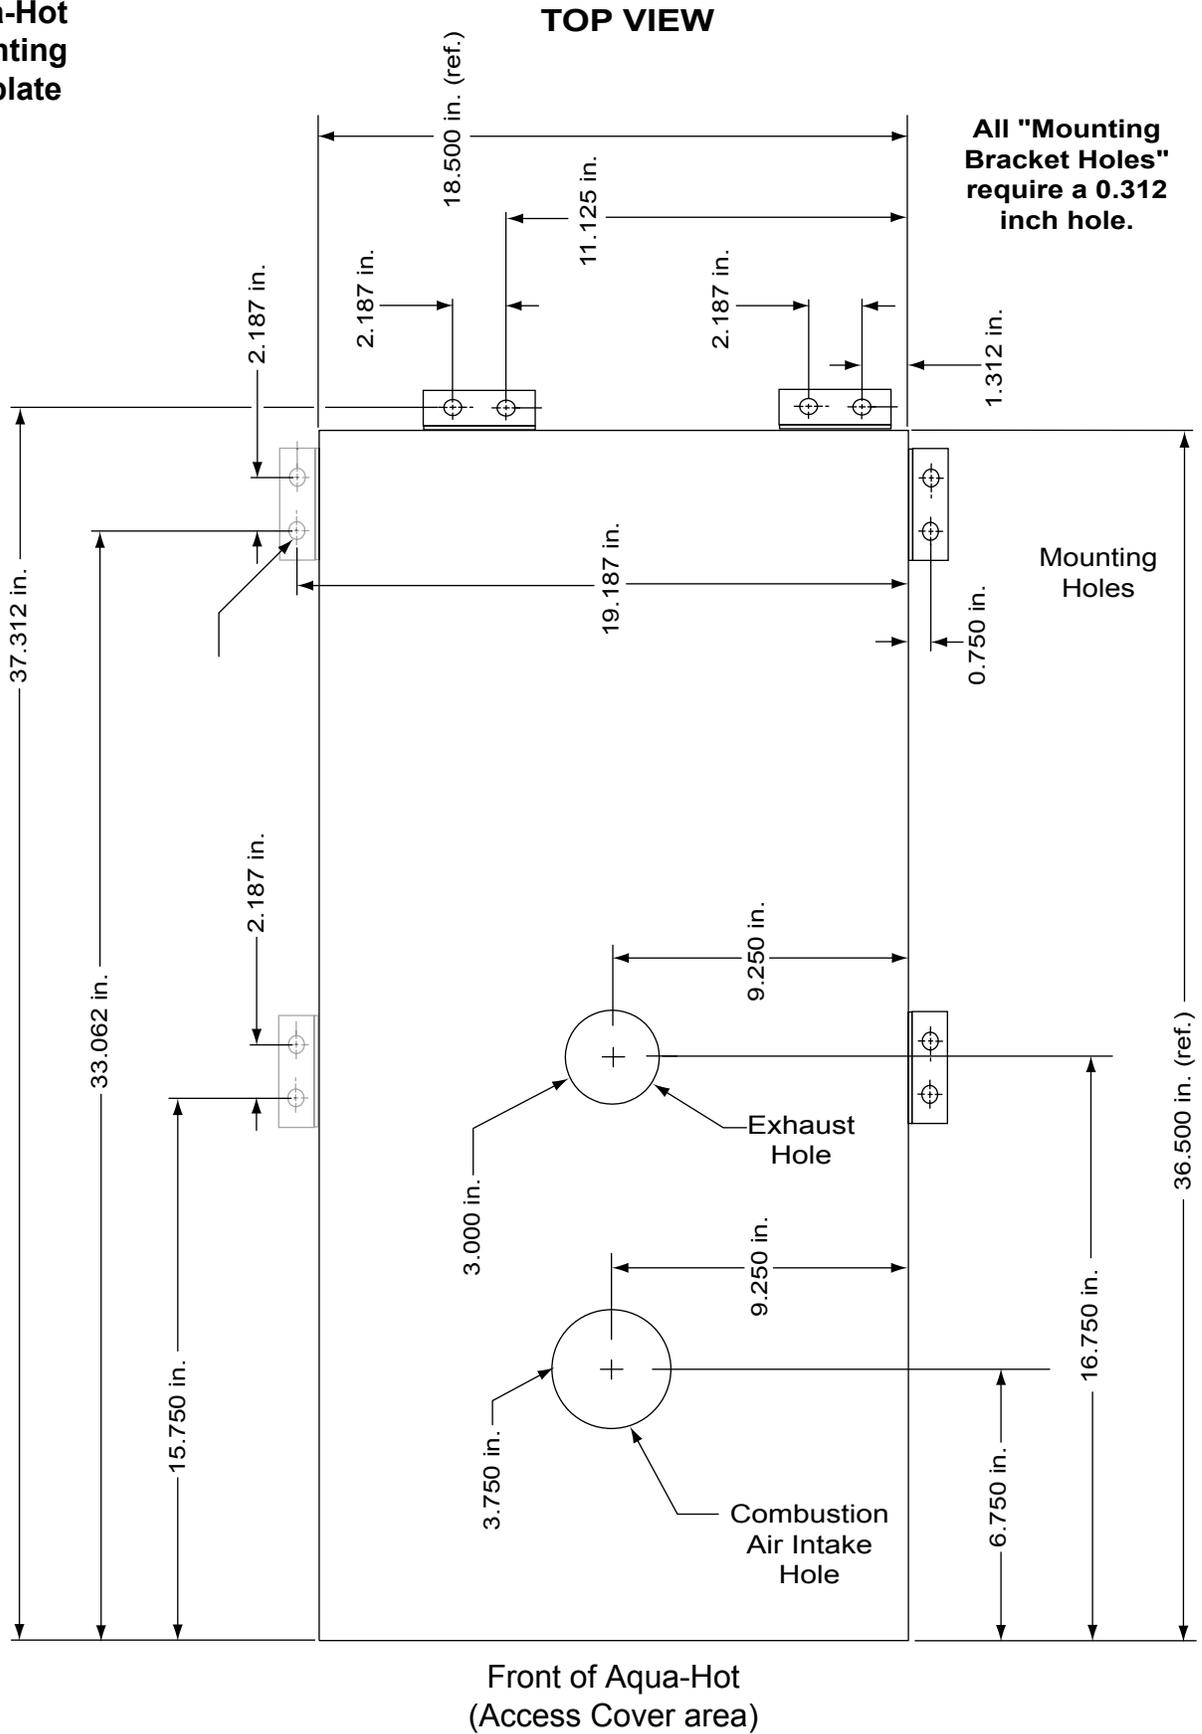

Figure 6
- Required size and locations of the Combustion-Air Hole and Exhaust Holes; reference Figure 6.
- Required size and location of the Mounting Bracket Holes; reference Figure 6.
1. Drill all the necessary holes prior to mounting the Aqua-Hot permanently into place; reference Figure 6.